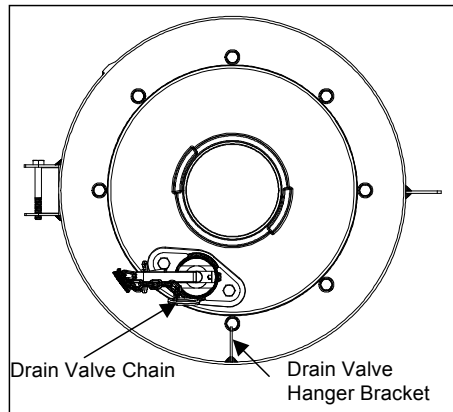

Figure 3
7. If the skirt is damaged it can be replaced by removing the eight base bolts and replacing the Base O-ring. Tighten the bolts to 15-20 ft-lbs using a crossing pattern. Be sure to note the drain valve chain hanger bracket location in relation to the drain valve. Position accordingly. (See Figure 3)